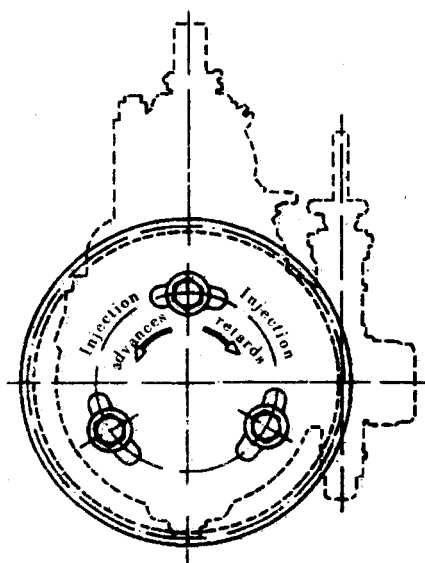

Fig. 2 Adjustment of specified advanced injection angle
3. In case that they do not match with each other, the advanced injection angle can be adjusted by removing off the front cover on the timing gear housing and loosening the three screws fastening the injection pump timing gear support (see fig.2). If the injection timing is too advanced, turn the timing gear support anticlockwise to the proper angle. Otherwise, turn the support clockwise. If adjusting range is not enough due to limitation of the three elongated holes, loosen a little the three fastening nuts on the triangular flange of the injection pump and turn the injection pump. Facing the front end of engines, when the injection pump rotates clockwise, the fuel injection will retard; while the pump rotates anticlockwise, the fuel injection will advance.